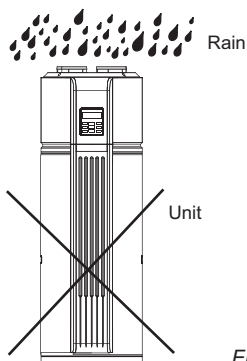

Fig.3-6
- In case of rain entering to internal components of the unit, the component might be damaged or causing physical danger. (Fig.3-6)